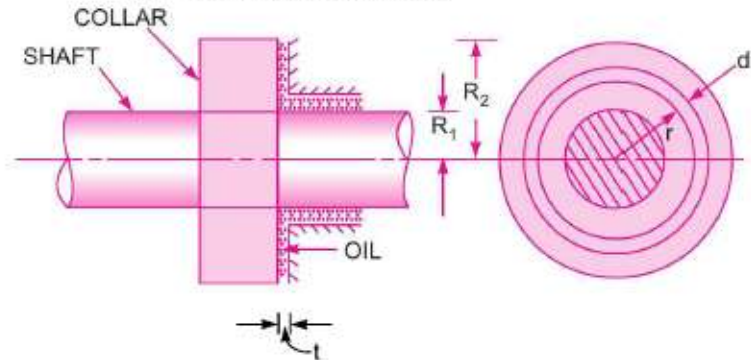

Fig. 9.12 Collar bearing.
9.5.3 Viscous Resistance of Collar Bearing. Fig. 9.12 shows the collar bearing, where the face of the collar is separated from bearing surface by an oil film of uniform thickness.